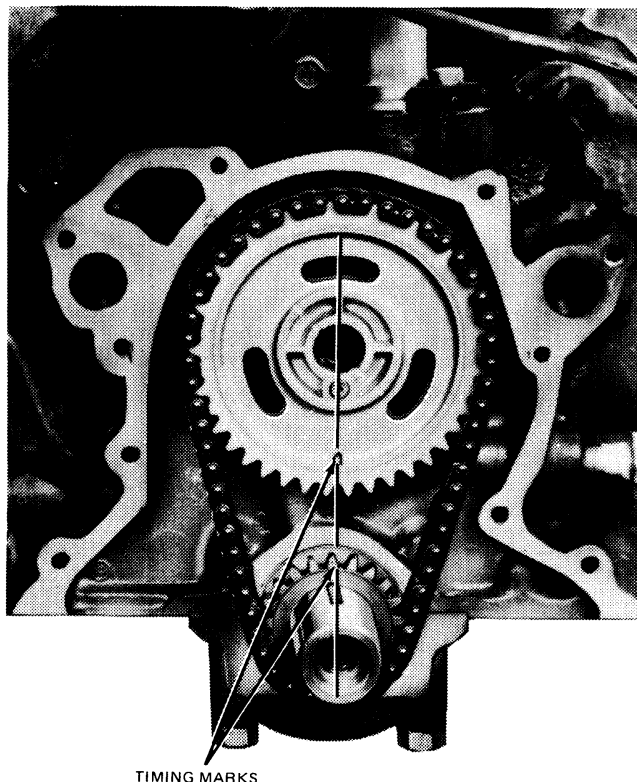
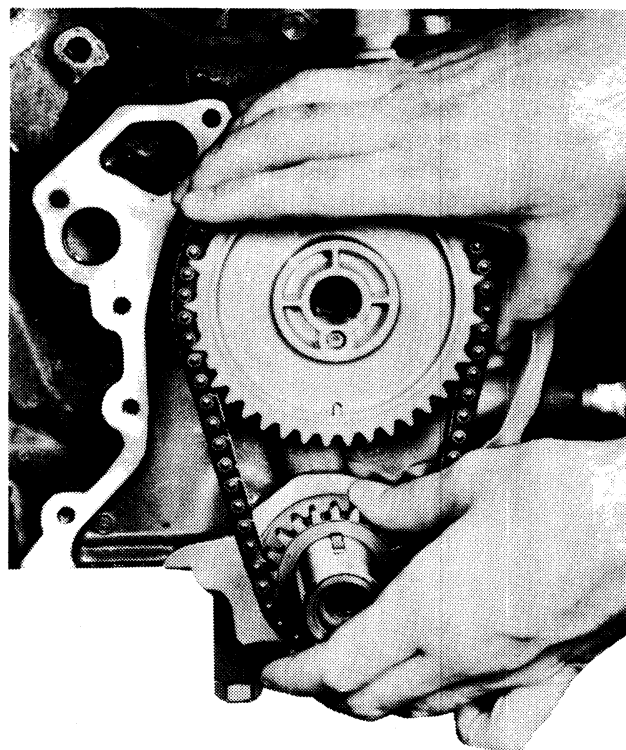
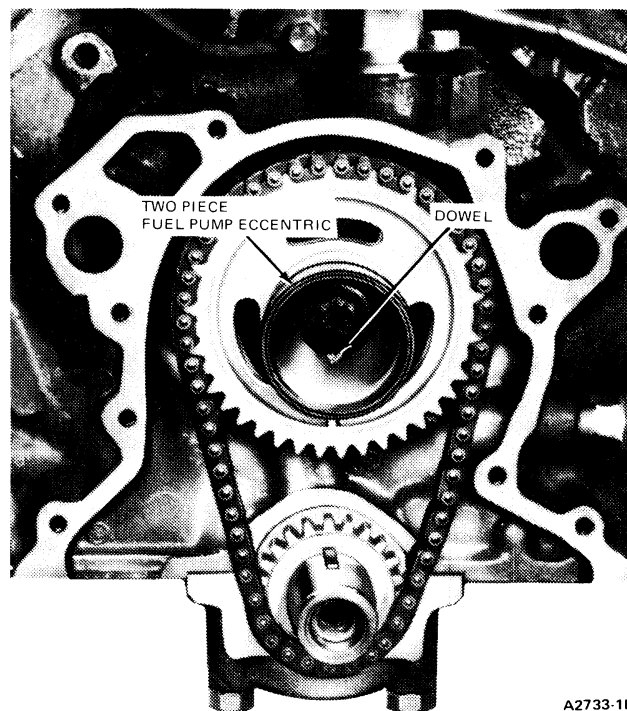

FIG. 26 Aligning Timing Marks
FIG. 27 Removing or Installing Timing Chain
FIG. 28 Fuel Pump Eccentric—Installed
7. Crank the engine until the timing marks on the sprockets are positioned as shown in Fig. 26.
8. Remove the camshaft sprocket capscrew, washers and fuel pump eccentric. Slide both sprockets and the timing chain forward, and remove them as an assembly (Fig. 27).
1. Position the sprockets and timing chain on the camshaft (Fig. 27). Be sure the timing marks on the sprockets are positioned as shown in Fig. 26.
2. Install the fuel pump, eccentric, washers and camshaft sprocket capscrew (Fig. 28). Tighten the sprocket capscrew to specifications.
3. Clean the cylinder front cover, oil pan and the block gasket surfaces. Clean the oil pan gasket surface where the oil pan and front cover fasten (Fig. 28).
10. Crank the engine until the timing marks on the sprockets are positioned as shown in Fig. 26.
11. Remove the camshaft sprocket capscrew, washers and fuel pump eccentric. Slide both sprockets and the timing chain forward, and remove them as an assembly (Fig. 27).
1. Position the sprockets and timing chain on the camshaft (Fig. 27). Be sure the timing marks on the sprockets are positioned as shown in Fig. 28.